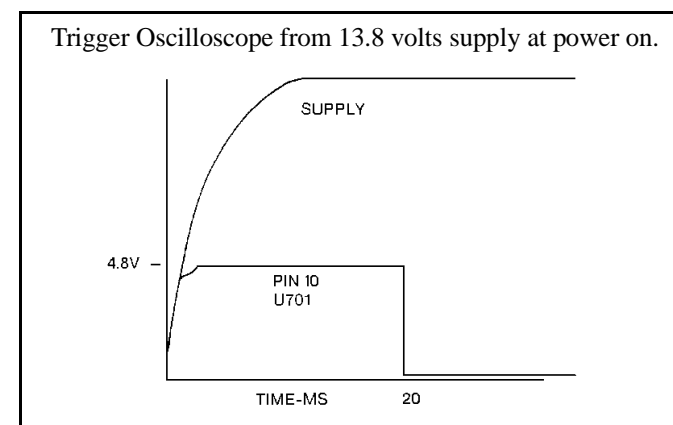

Figure 1 - Reset Wave Form
2. See Figure 1 and check for the 20 ms wide reset pulse at U701 pin 10. Observe the reset pulse and the 13 volt supply simultaneously while triggering the scope on the 13 volt supply. Observe that pin 9 switches low about 20 ms after supply turns on (see Figure 1). If not present, check regulator U705 and transistor Q703.